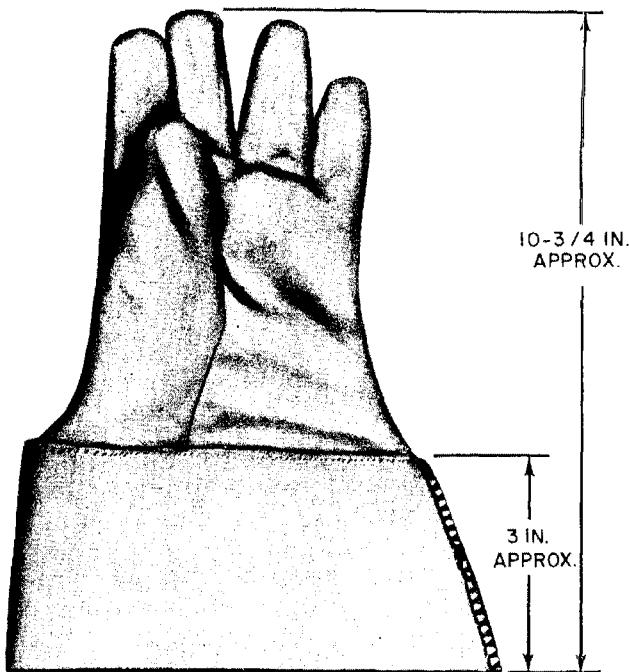

Fig. 3—Fabric Liner Glove
4.01 C Fabric Liner Gloves are formfitting gloves made of lightweight interlock knit cotton cloth. They are equipped with 3-inch wide rubberized fabric gauntlets. The over-all length of the gloves is about 10-3/4 inches (Fig. 3).